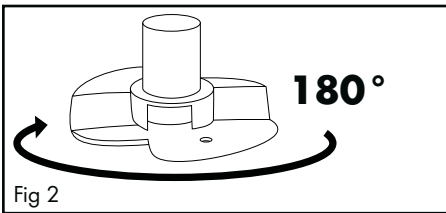
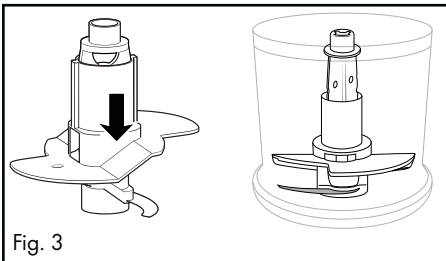

Fig 2
Fig. 3
- For 200 ml of cream, turn the whisk attachment 10 horizontally by 180° (fig. 2), so that it is in contact with only one blade 7 and clicks into place (fig. 3). It then churns higher through the cream.